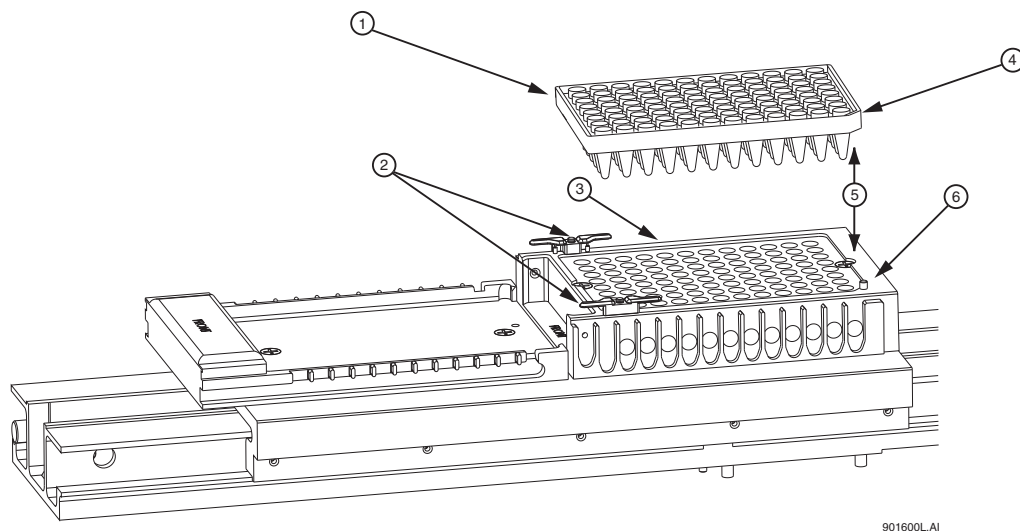

Figure 3.30 Loading the Sample Plate
2. Align the Sample Plate Guide Pin with the notched corner of the sample plate and gently lower the plate into position (Figure 3.30).